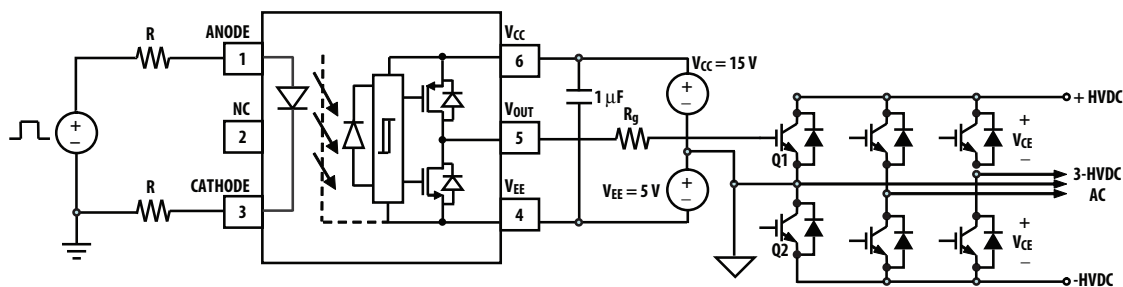

Figure 22. Recommended application circuit with split resistors LED drive.
The recommended application circuit shown in Figure 22 illustrates a typical gate drive implementation using the ACPL-P341. The following describes about driving IGBT. However, it is also applicable to MOSFET. Designers will need to adjust the  $V_{CC}$  supply voltage, depending on the MOSFET or IGBT gate threshold requirements (Recommended  $V_{CC} = 15\text{ V}$  for IGBT and  $12\text{ V}$  for MOSFET).
**Step 1:** Calculate Rg minimum from the IOL peak specification. The IGBT and Rg in Figure 22 can be analyzed as a simple RC circuit with a voltage supplied by ACPL-P341/W341.
The ACPL-P341/W341 includes a Propagation Delay Difference (PDD) specification intended to help designers minimize “dead time” in their power inverter designs. Dead time is the time period during which both the high and low side power transistors (Q1 and Q2 in Figure 22) are off. Any overlap in Q1 and Q2 conduction will result in large currents flowing through the power devices between the high and low voltage motor rails.